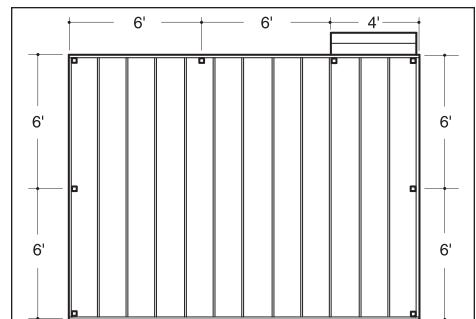

fig. 2
Step 1: Determine the number of railing posts needed for your deck. Post spacing is 6' on center. Example: A 12' x 16' deck attached to a building with a 4' access opening on one side will require a total of eight posts (fig. 2).